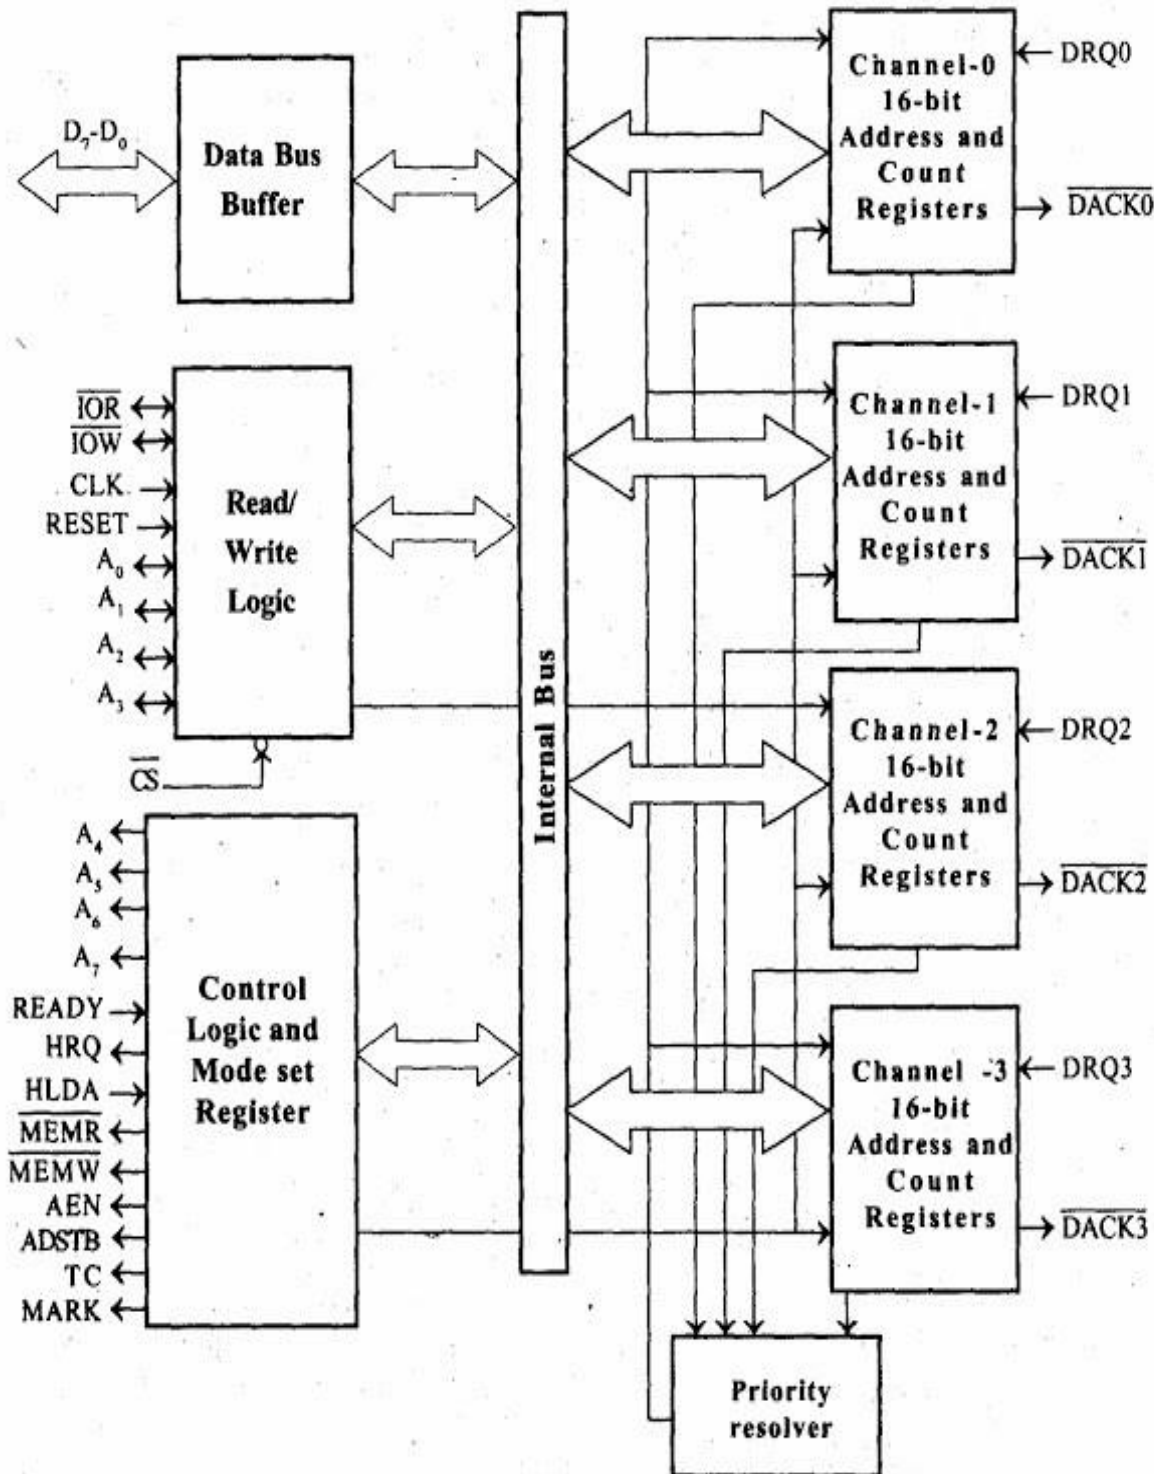

Fig 5 Block Diagram of 8257
- The functional block diagram of 8257 is shown in fig 5.